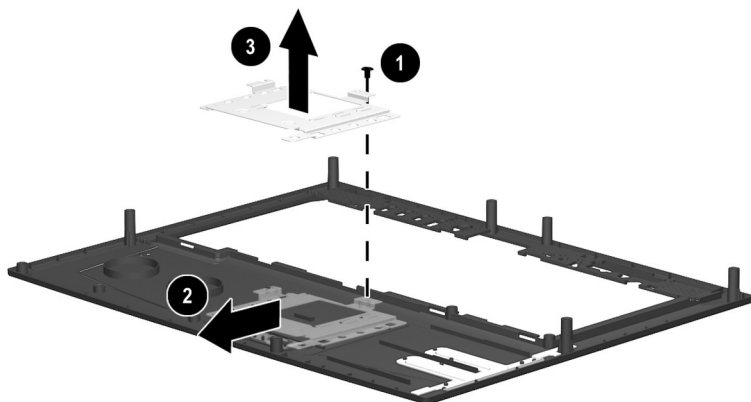

Figure 5-18: Removing the TouchPad Bracket
2. Remove the M2.5 × 4.5 screw ❶ securing the TouchPad bracket to the top cover (Figure 5-18).
3. Slide the TouchPad bracket forward ❷.
4. Lift the TouchPad bracket up and remove it from the top cover ❸.